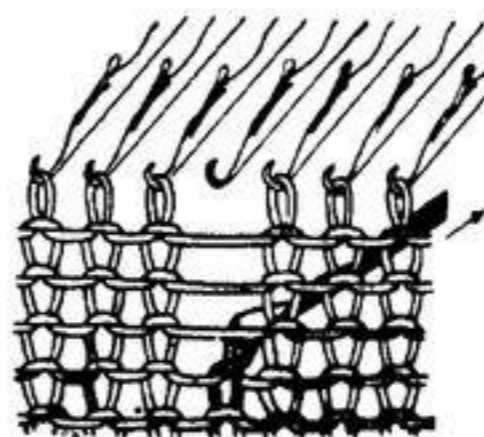

Fig. 49-4
3. Continue pulling the tool back until the strand has been pulled through the loop forming a new loop. (Fig. 49-4)